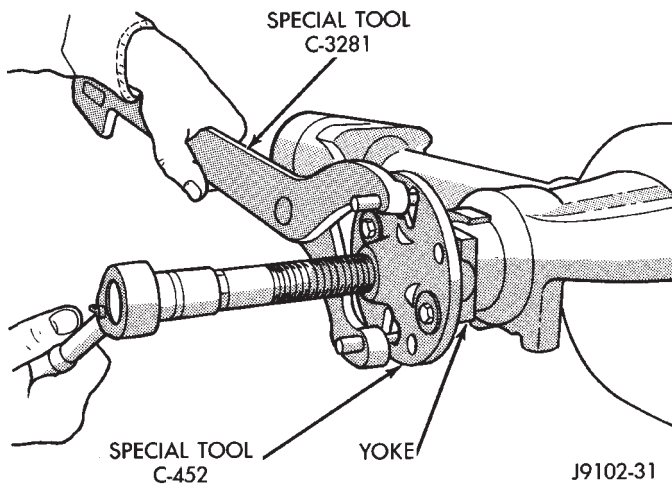

Fig. 33 Pinion Yoke Removal
(1) Remove the pinion yoke nut and washer. Use Remover C-452 and Wrench C-3281 to remove the pinion yoke (Fig. 33).